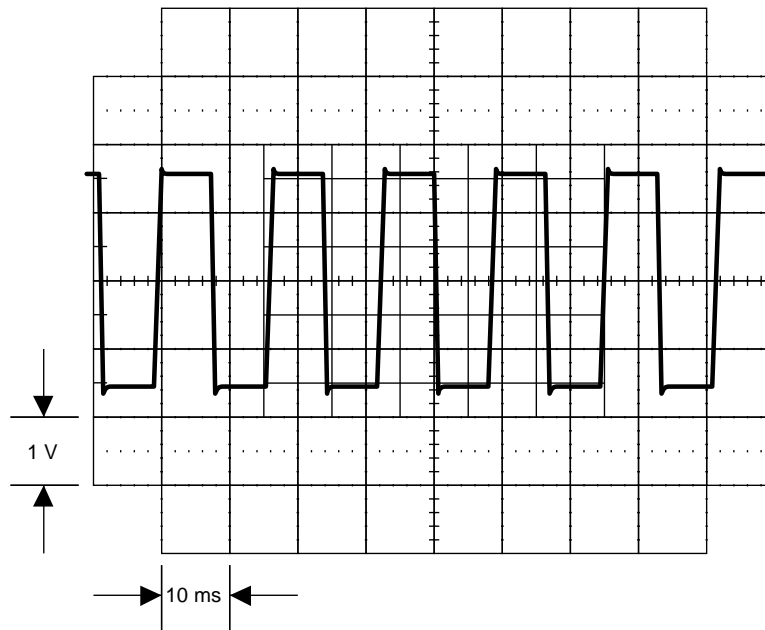

Figure 5-5. Waveform at Pin 6 of U9
11. Check the Amplitude Control Amplifier circuit. Disconnect the cable between the Wideband Oscillator assembly and Wideband Output assembly at J1 on the Wideband Output assembly. Set the 5700A to 1V at 1.2 MHz, operate. Connect an oscilloscope set for ac coupling to pin 6 of U9 and verify it displays a signal similar to Figure 5-5. If a failure is detected, check U9 and its associated components in the Amplitude Control Amplifier circuit.
12. Check the X10 Wideband Amplifier circuit. Disconnect the cable between the Wideband Oscillator assembly and Wideband Output assembly at J1 on the Wideband Output assembly. Set the 5700A to 1V at 1.2 MHz, operate. Connect an oscilloscope set for ac coupling to TP13 and verify is displays a signal similar to Figure 5-5, but approximately 10 times larger in amplitude. If a failure is detected, check Q4, Q5, Q6, and associated components in the X10 Wideband Amplifier circuit.